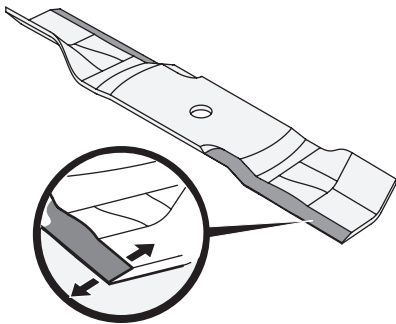

Fig. 58
- To properly sharpen the cutting blades, remove equal amounts of metal from both ends of the blades along the cutting edges, parallel to the trailing edge, at a 25°-30° angle. Always grind each cutting blade edge equally to maintain proper blade balance (Fig. 58).